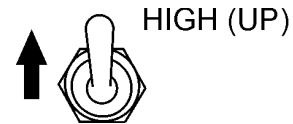

Figure 50. Engine Speed Switch (High)
2. Place the **Engine Speed Switch** (Figure 50) in the **HIGH** position